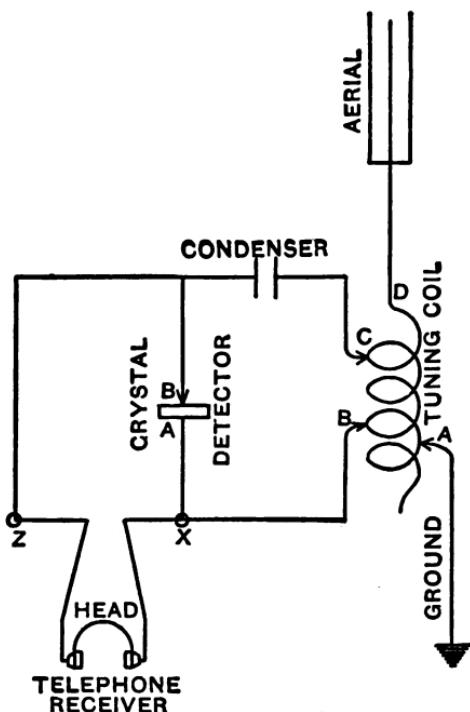
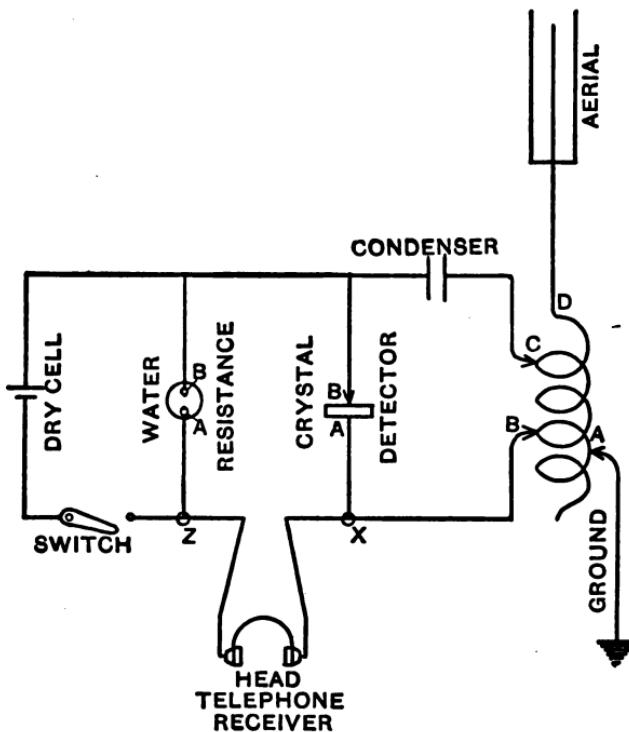
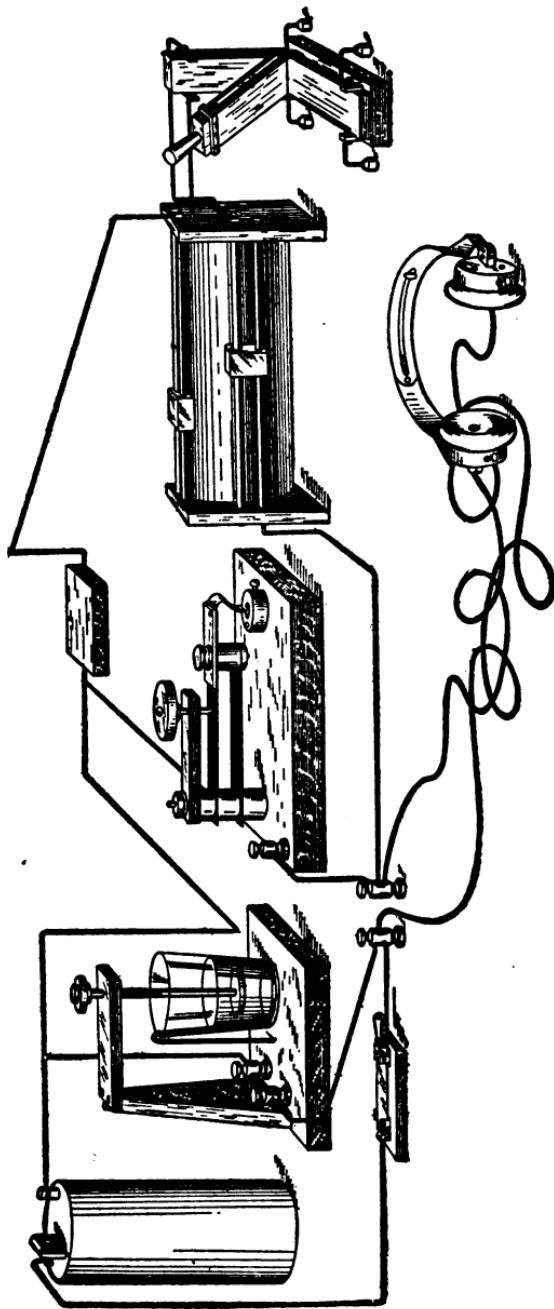

FIG. 127.—WIRING DIAGRAM OF RECEPTION WITH POTENTIOMETER.
FIG. 128.—WIRING DIAGRAM OF RECEPTOR WITH POTENTIOMETER.
FIG. 129.—RECEPtor COMPLETE AND READY FOR RECEIVING.
To wire up the various parts follow the wiring diagrams, Figs. 127 and 128. These diagrams are alike except that one has the potentiometer and the other is without it.
that remains to be done is to connect the binding post B of the detector and the other end of the cord of the telephone receiver with the binding post Z which is screwed to the table; these connections are shown in Fig. 127.
But if the potentiometer is to be used then connect the binding post B of this device with the binding post B of the crystal detector as shown in the wiring diagram, Fig. 128. Connect the binding post marked A of the potentiometer with the binding post Z and also with one end of the switch. Connect ~~the~~
**Adjusting the Receptor.**—When you adjust the receptor for the first time after wiring it up it is better not to use the potentiometer and dry cell shunted around the detector as shown in Fig. 128, but to connect the telephone receiver directly to the binding posts of the detector as shown in Fig. 127. The receptor complete and ready for use is shown in Fig. 129.
**To Adjust the Receptor with the Potentiometer.**—After you have learned to adjust the detector and tuning coil so that you can get good results, connect in the potentiometer and dry cell as shown in the wiring diagram, Fig. 128.